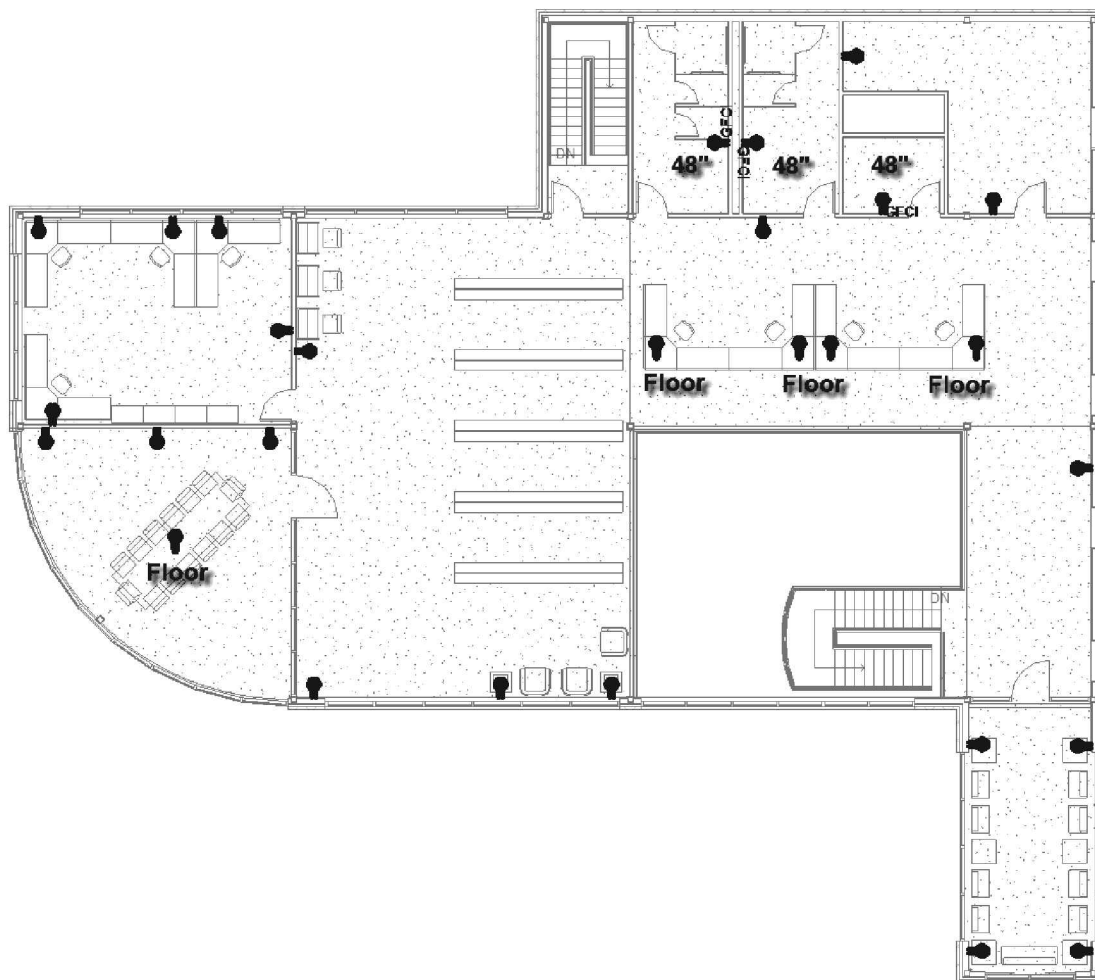

FIGURE 14-3.9 Level 2 power floor plan view; power receptacle locations
19. Following the same instructions as Step 16, place the Level 2 outlets as shown in Figure 14-3.9.